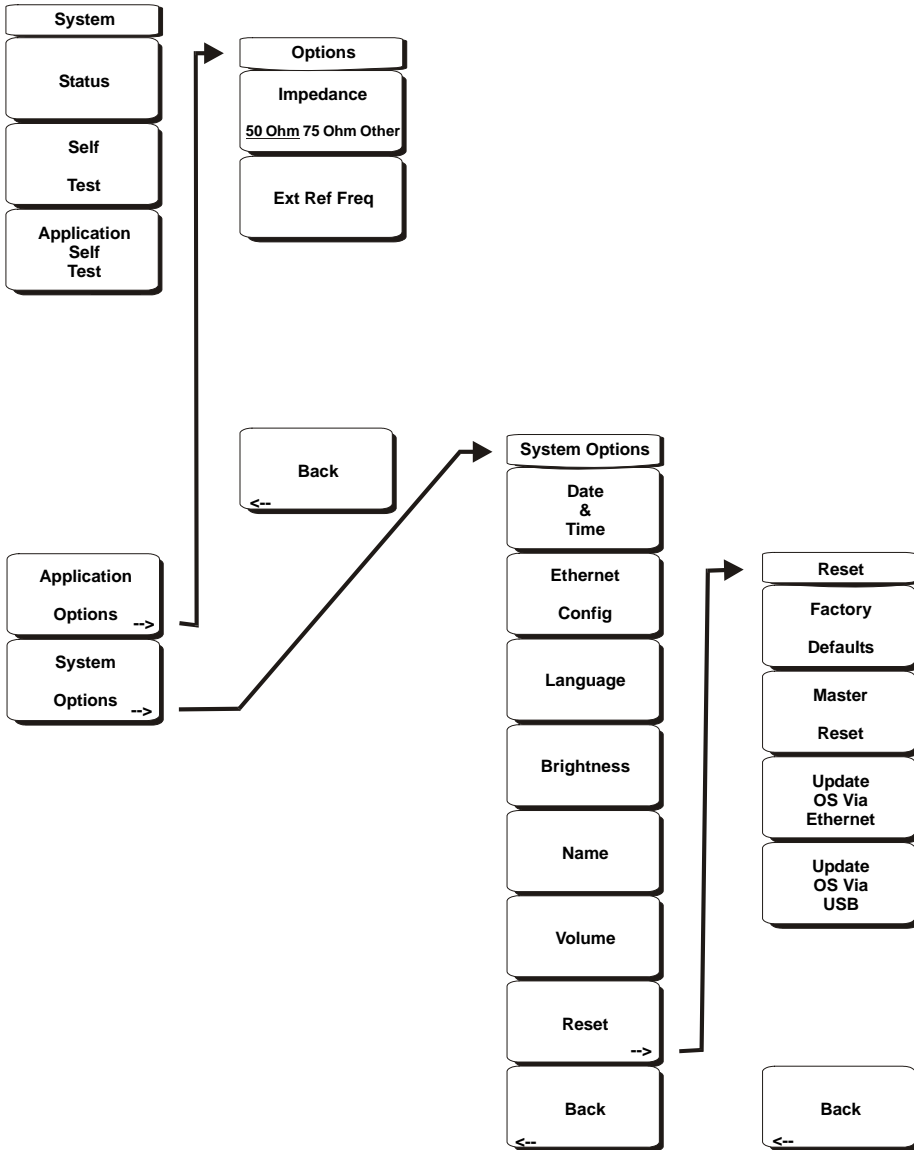

Figure 3-13. System Menu Soft Keys
To access the functions under the System menu, select the **Shift** key, then the **System** (8) key. The System menu soft keys are shown in Figure 3-13.